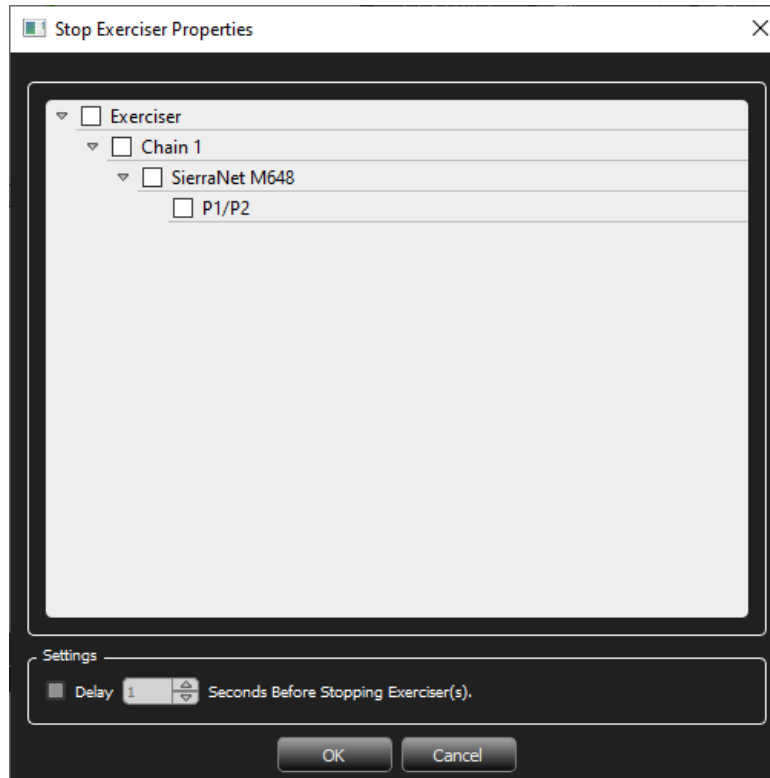

Figure 7.8: Stop Exerciser Properties
1. Drag and drop the **Stop Exerciser** command to display the *Stop Analyzer Properties* window (Figure 7.8).